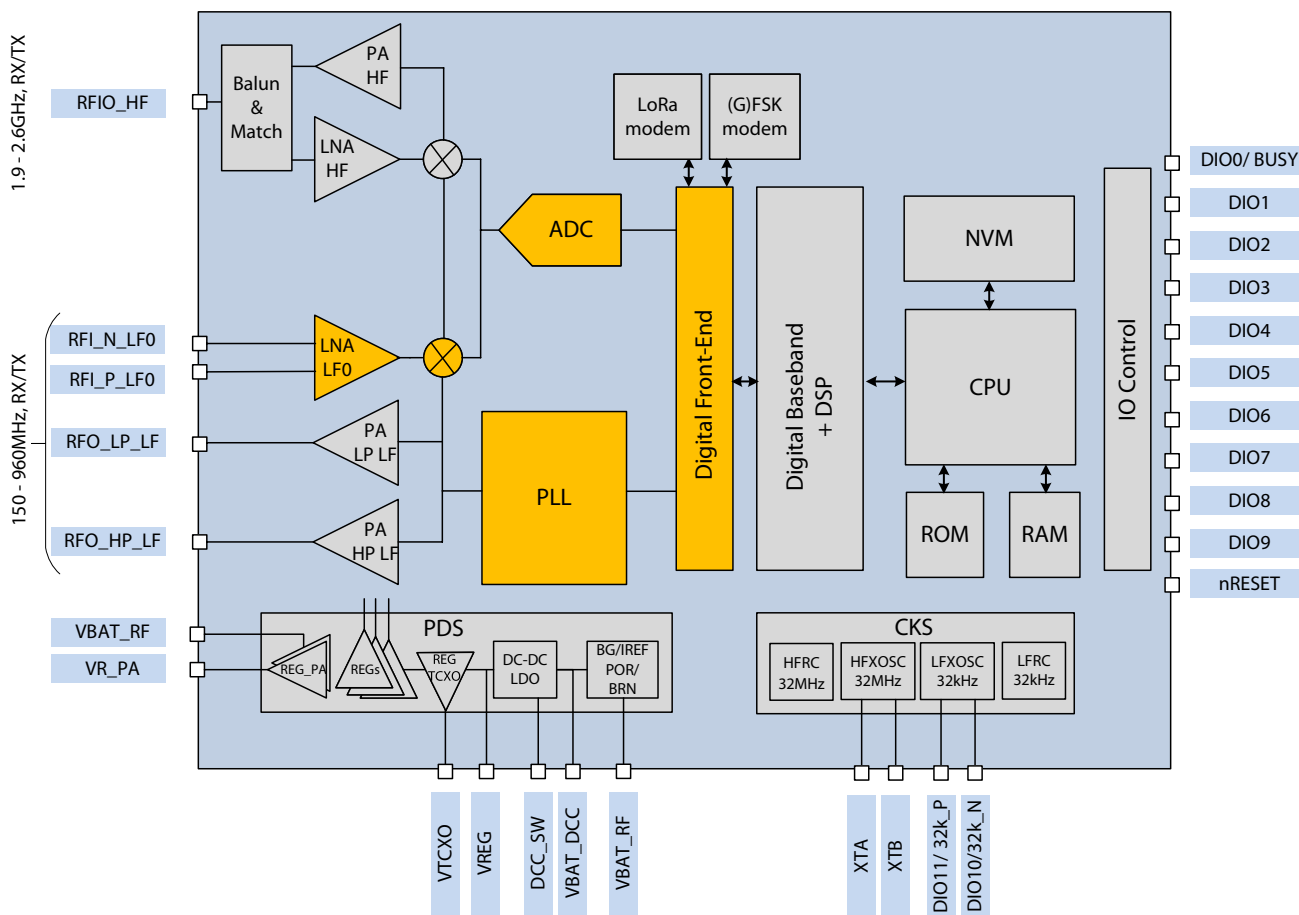

Figure 7-1: Radio
The radio system is shown in Figure 7-1: Radio below. It is composed of the frequency synthesizer (also referred as PLL), three TX paths (High Power, Low Power and High Frequency), and two RX paths, followed by a high-bandwidth ADC. Both the ADC and the PLL are tied to the digital subsystem and to the LoRa and (G)FSK modems, and the LR-FHSS modulator.